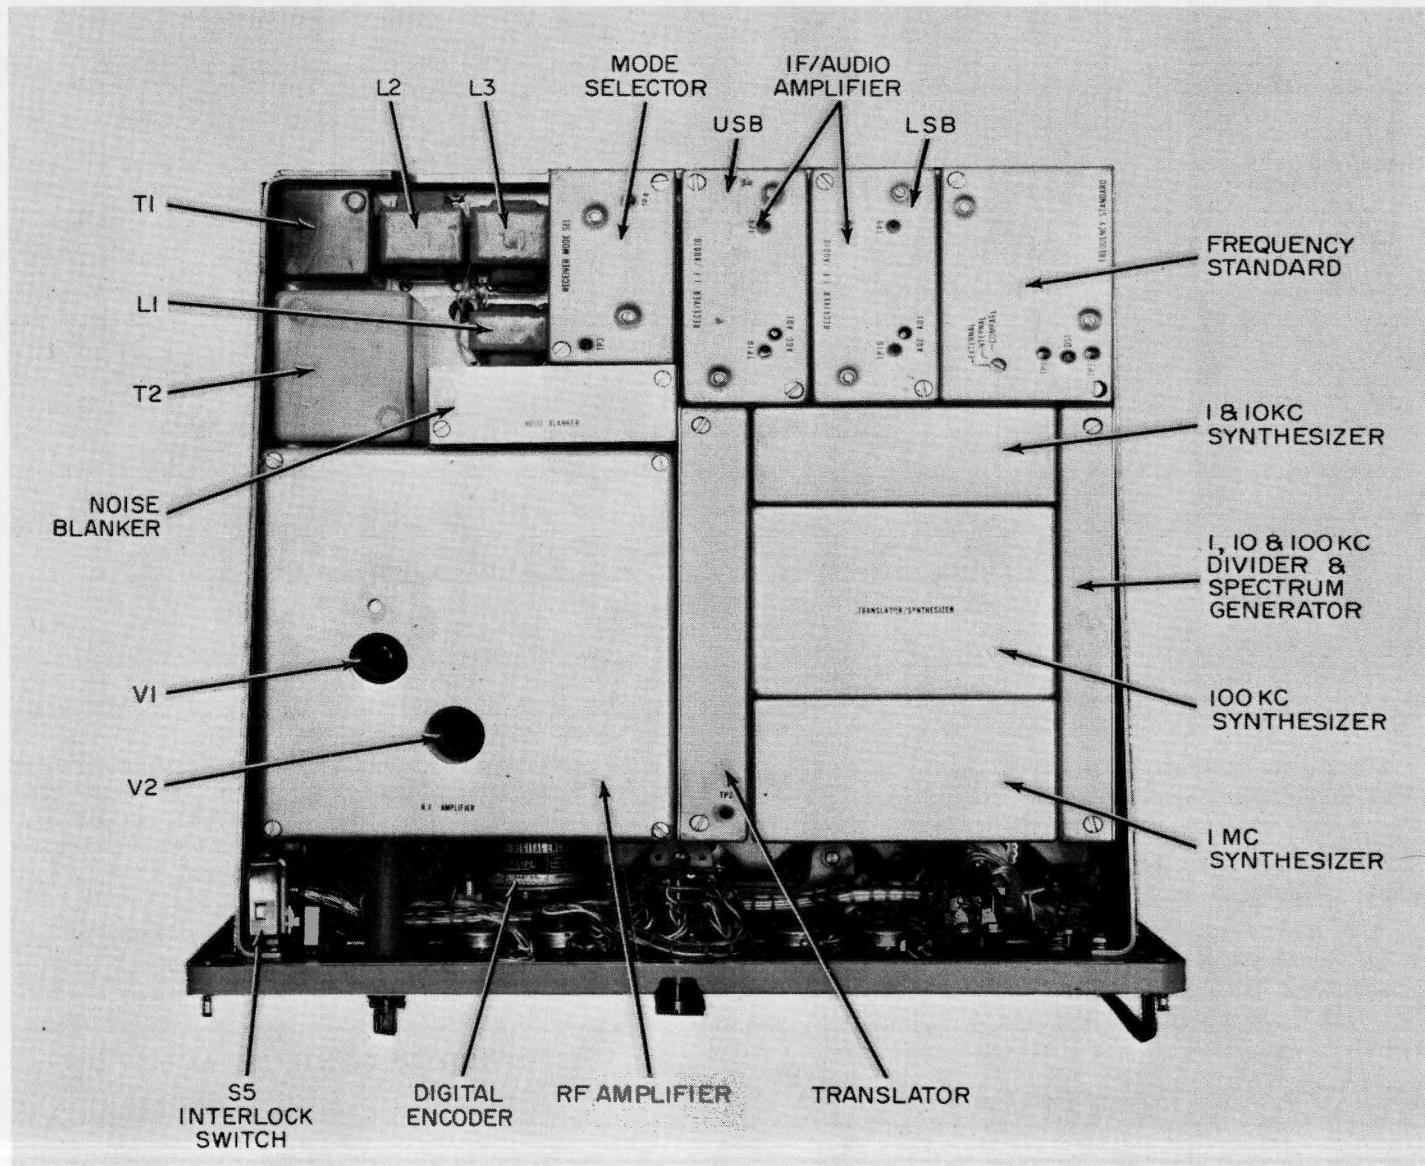

Figure 2-1. Radio Receiver SC-910R, Top View
2.1.1 General. Radio Receiver SC-910R is designed to receive single sideband transmissions of upper sideband (USB), lower sideband (LSB) or independent sideband (ISB) as well as conventional transmissions of frequency shift keying (FSK), CW and AM. The Receiver consists of a main frame assembly with eight plug-in electronic modules. (See figure 2-1.) Power and signal connections are made to jacks mounted on the rear panel. All controls required for normal operation are mounted on the front panel.